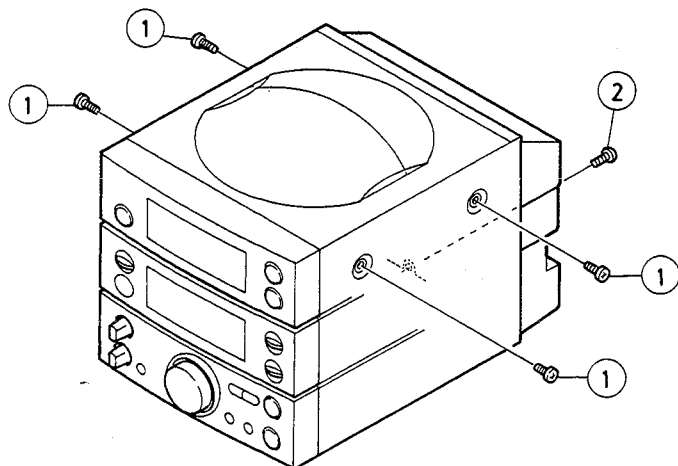

Fig. 7-1
1. Remove five screws (1) and (2) retaining the metal cover. (Fig. 7-1)